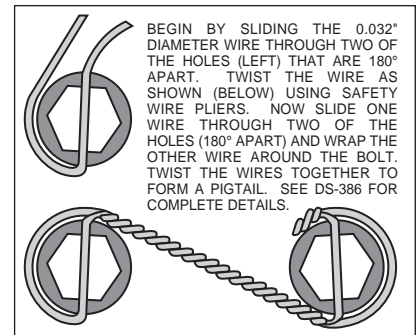

Figure 4. Safety Wire Diagram
- Pack the small outer bearing cone (18) with high temperature disc brake bearing grease and install into front of hub (10). Slide the hub/rotor assembly (10 and 13) with outer bearing cone (18) onto the spindle. Secure using spindle washer (19), stock adjusting nut and nut locking device. Adjust bearings per Original Equipment Manufacturer (OEM) specifications.
- Install the dust cap (20) and o-ring (21) onto the hub (10). Friction created by the o-ring (21) on the dust cap (20) keeps it from unscrewing.
- With the larger I.D. side of the rotor (13) facing away from the hat (14), bolt rotor (13) to hat (14) through the backside of the rotor using washers (15) and bolts (16). Torque bolts (16) to 85 **in-lb**. Safety wire bolts (16) using standard 0.032 inch diameter stainless steel safety wire as shown in Figure 4. Please refer to Wilwood's data sheet DS-386 (available at [www.wilwood.com/pdf/ds386.pdf](http://www.wilwood.com/pdf/ds386.pdf)) for complete safety wire installation instructions.